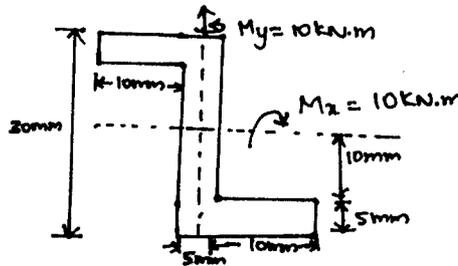

Fig Q2(a)
- 2 a. The beam section shown in Fig Q2(a) is subjected to a bending moment of 10kN.m in both the axes. Determine the distribution of direct stress